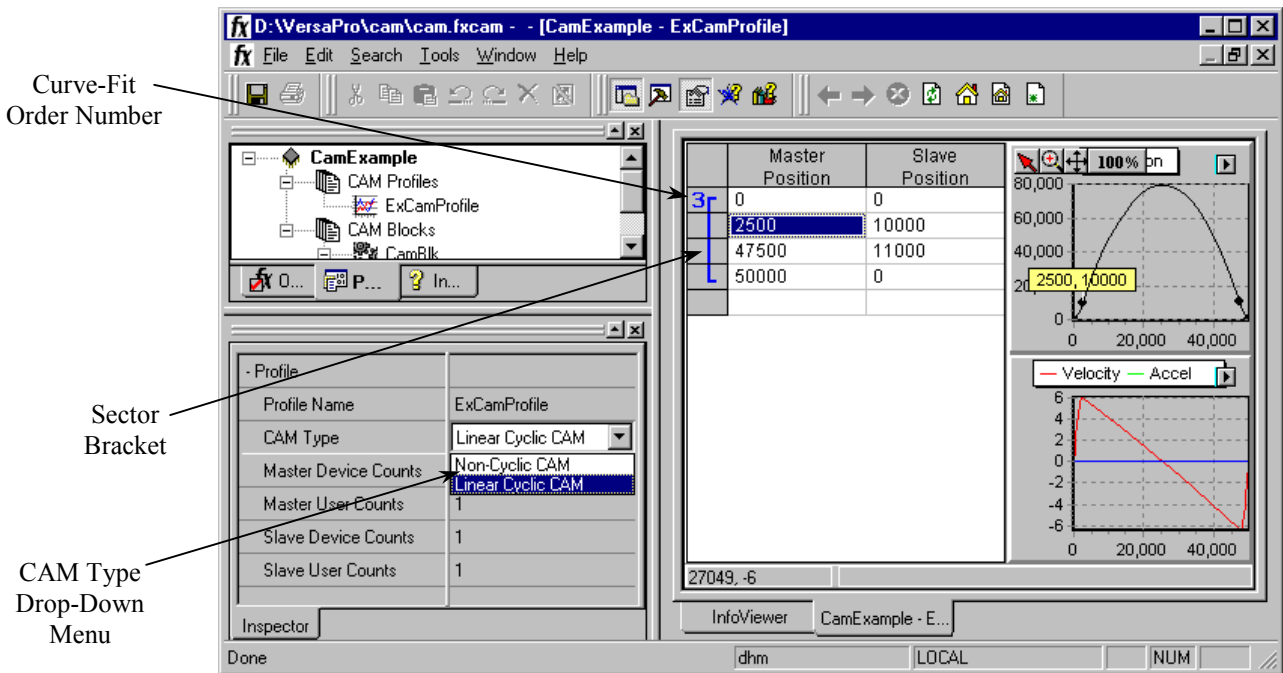

Figure 16-24. CAM Editor CAM Type Selection
- Choose 'Linear Cyclic CAM' from the list (Figure 16-24).